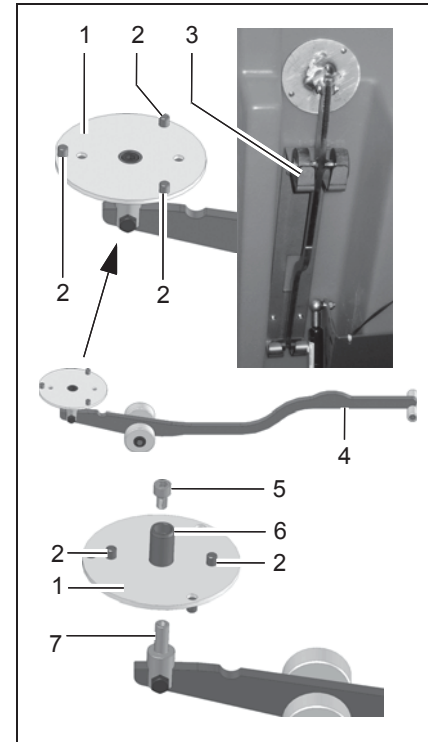
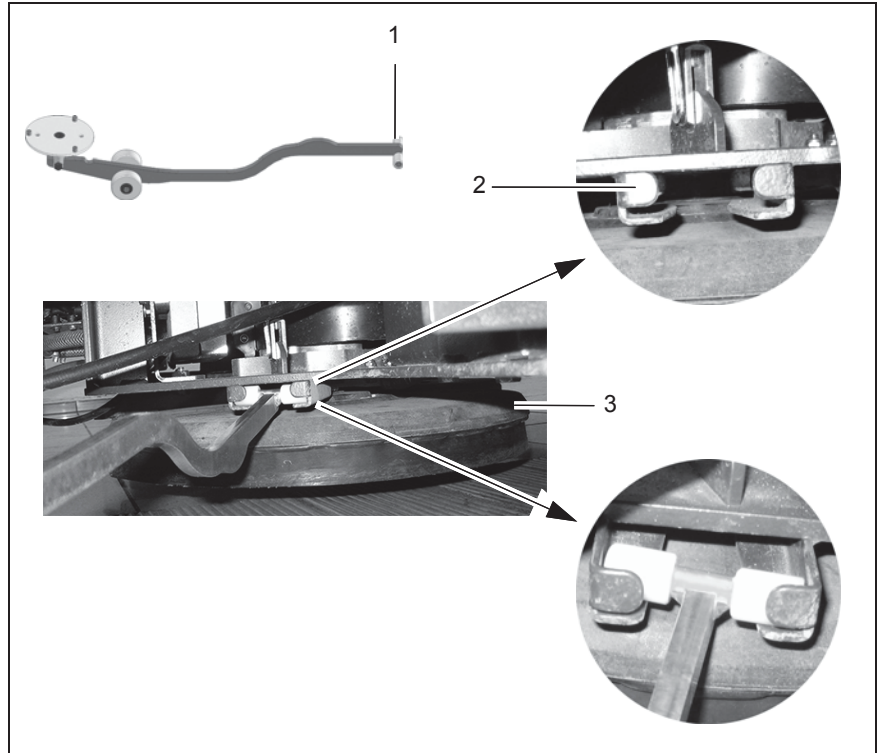

Fig. 6
Fig. 9
To simplify assembly and disassembly of the middle brush or pad in particular, an assembly tool (Fig. 6/4) is provided which is kept in a corresponding holder (Fig. 6/3) under the seat console which can be opened out.
Both sides of the plate (Fig. 6/1) of the assembly tool (Fig. 6/4) can be used:
- To assemble brushes, the flat side of the plate (Fig. 6/1) (without centering device (Fig. 6/6)) must point upwards.
- To assemble pads, the side of the plate (Fig. 6/1) with the centering device (Fig. 6/6) must point upwards.
There are pins (Fig. 6/2) on both sides of the plate (Fig. 6/1) which serve to center the brush or pad on the assembly tool.
1. Remove the screw (Fig. 6/5).
2. Remove the plate (Fig. 6/1) from the dowel (Fig. 6/7).
3. Turn the plate (Fig. 6/1) over.
4. Fit the plate (Fig. 6/1) upside down on the dowel (Fig. 6/7).
5. Insert and tighten the screw (Fig. 6/5).
The assembly tool (Fig. 6/4) can be used to assemble and disassemble all the brushes or pads.
3. Insert the narrow side of the assembly tool (Fig. 9/1) in the guiding aid (Fig. 9/2).
4. Slide the assembly tool (Fig. 9/1) as far as possible to the rear.
5. Force the broad end of the assembly tool with the plate (Fig. 6/1) downwards. As a result of the levering effect, the brush or pad (Fig. 9/3) is released from the brush head.
6. Draw the assembly tool (Fig. 9/1) back and remove from the guiding aid (Fig. 9/2).